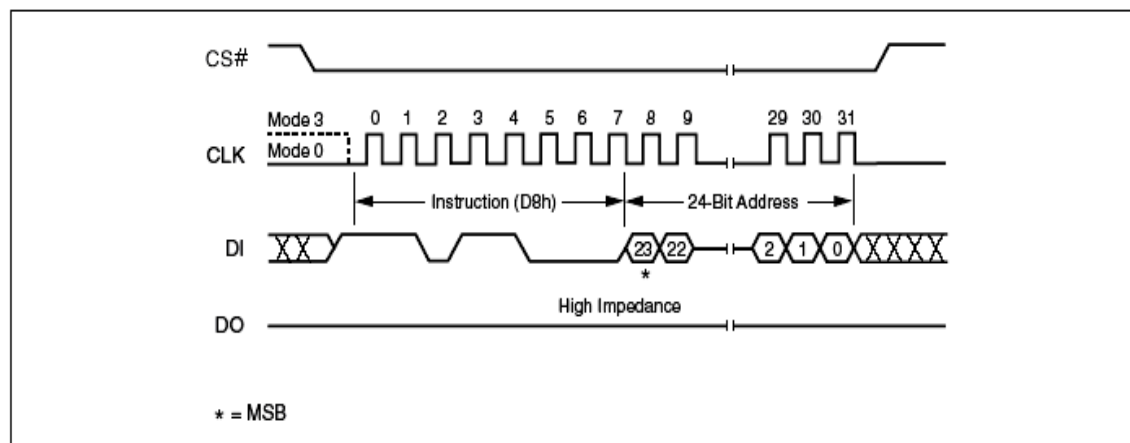

Figure 30. 64K Block Erase Instruction Sequence Diagram
The instruction sequence is shown in Figure 30. Chip Select (CS#) must be driven High after the eighth bit of the last address byte has been latched in, otherwise the Block Erase (BE) instruction is not executed. As soon as Chip Select (CS#) is driven High, the self-timed Block Erase cycle (whose duration is t_{BE}) is initiated. While the Block Erase cycle is in progress, the Status Register may be read to check the value of the Write In Progress (WIP) bit. The Write In Progress (WIP) bit is 1 during the self-timed Block Erase cycle, and is 0 when it is completed. At some unspecified time before the cycle is completed, the Write Enable Latch (WEL) bit is reset.